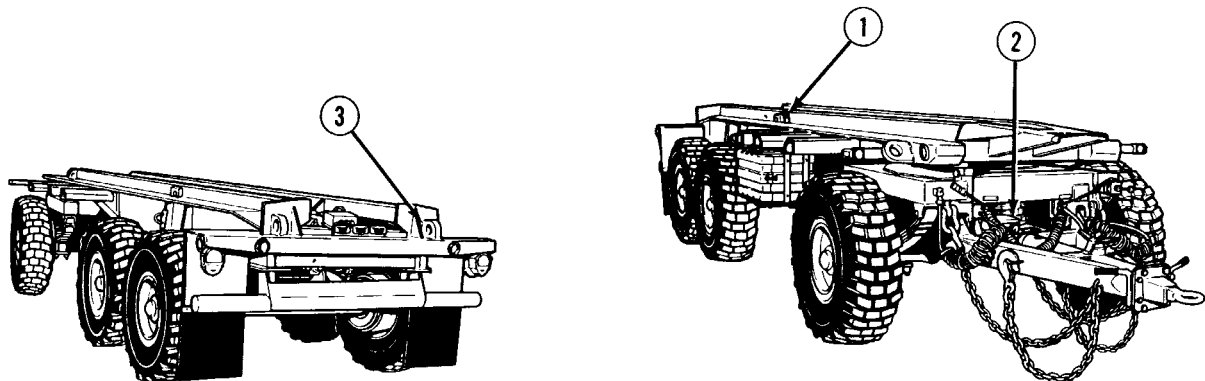

Figure 1-28. Palletized Load System Trailer (PLST)
The Palletized Load System Trailer (PLST) (Figure 1-28) is a three axle trailer designed to carry a Flatrack (FR) with a 33,000 lb. (15 metric tons) nominal payload. It can accommodate both full and partial loaded flatracks. Guides laterally position the FR on the trailer rear stops and these locate the longitudinal position of the FR in relation to the PLST. These stops prevent the FR from sliding rearward. A pneumatic locking device (1), located between the frame rails just above the second axle, hooks to engage the lock points and secure the FR to the PLST. An air valve controls the position of the lock hooks. Springs retain the hooks in the locked position. The PLST has a standard 12 volt electrical system with 24 volt military adapters (2). Also provided are two intervehicular electrical connecting cables of sufficient length to reach the towing truck. Two towing eyes (3), at the rear of the PLST permit towing with a medium duty tow bar. The spare tire carrier is ahead of the second axle in the center of the frame. The spare tire is held in place with bolts through the wheel bolt pattern. The spare tire and wheel assembly can be raised and secured in the spare tire carrier by the trailer-provided hand-operated winch. The PLST uses turntable-type steering for tracking and turning and is equipped with an air braking system. All three axles use 16.5 in. diameter by 7 in. wide (419 mm by 178 mm) S-cam brakes. The PLST has a dual brake system with separate service and emergency brake system. The PLST brake system is activated and charged by the truck air supply. The brakes are self-adjusting. Refer to TM 9-2330-385-14 for Operator's, Unit, Direct Support and General Support Maintenance for the PLS Trailer.